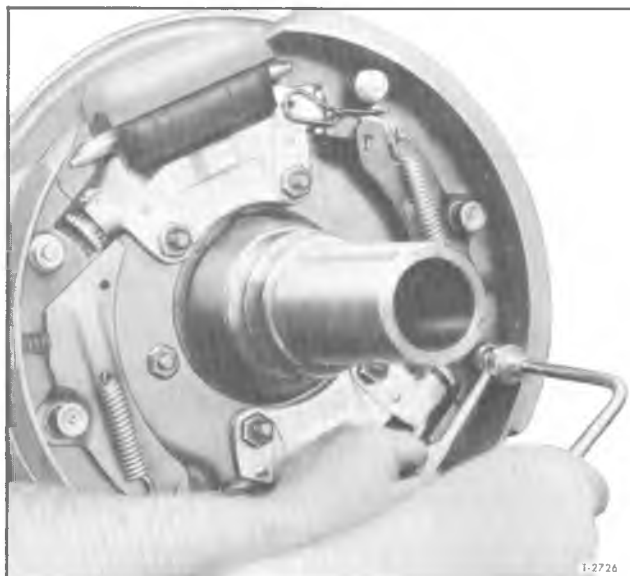

Figure 38—Removing Brake Shoe Hold Down Pins
5. Remove the brake shoe hold-down springs and pins by compressing the spring with Tool (J-22348) and, at the same time, pushing the pin back through the flange plate toward the tool. Then, keeping the spring compressed, remove the lock (C-washer) from the pin with a magnet (fig. 38).